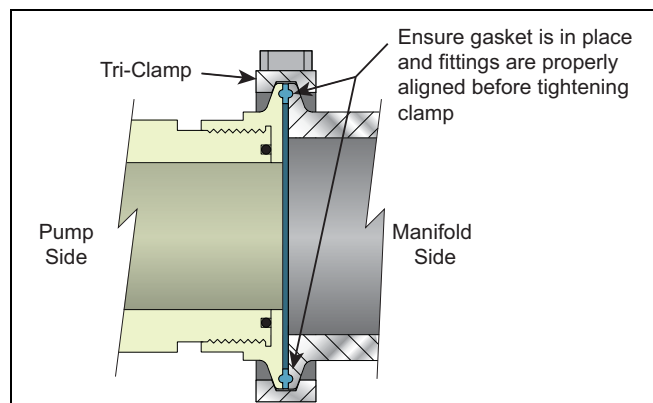

Figure 11. Checking The Discharge Line Flange Gasket Seating And Alignment
5. Visually inspect the discharge line connection for proper gasket position and clamp alignment then tighten the locking bolt on the clamp to 3 ft-lb (4 N•m) maximum. Reference Figure 11.